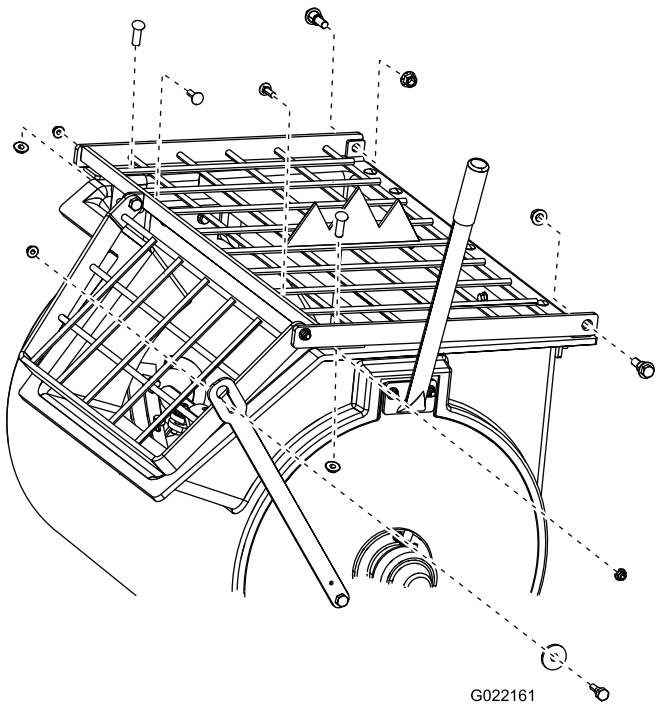

**Figure 40**
- Remove the nuts and bolts that secure the grate to the drum, and remove the grate (Figure 40, Figure 41, or Figure 42).